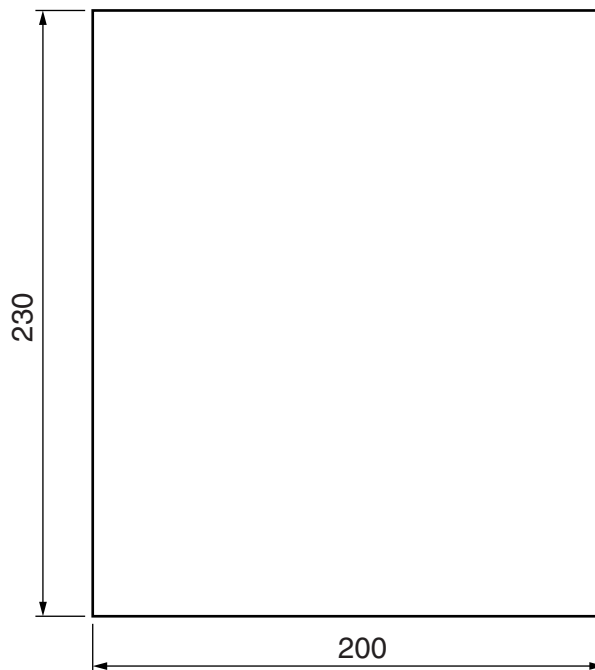

Fig. 15
- (a) Fig. 15 shows the acrylic sheet from which the photo frame and coat hook will be cut.
- (i) Draw on Fig. 15 the development (net) of the photo frame and coat hook. Include the cut out shape for the photo.